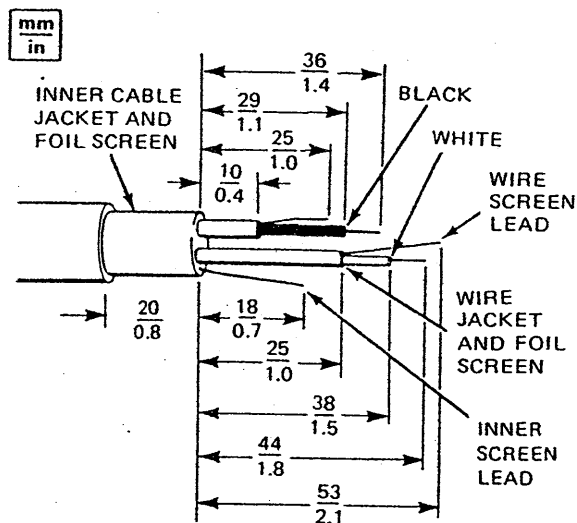

Figure 31. Inner and Lead Jackets of Signal Cable Stripped Back for Connection to Transmitter Terminals
- Strip back inner jacket and foil screen as shown in Figure 31. Do not cut inner screen lead.
- Strip back lead jackets as shown (Figure 31). Do not cut screen leads.
- Strip insulation from white and black leads as shown (Figure 31).